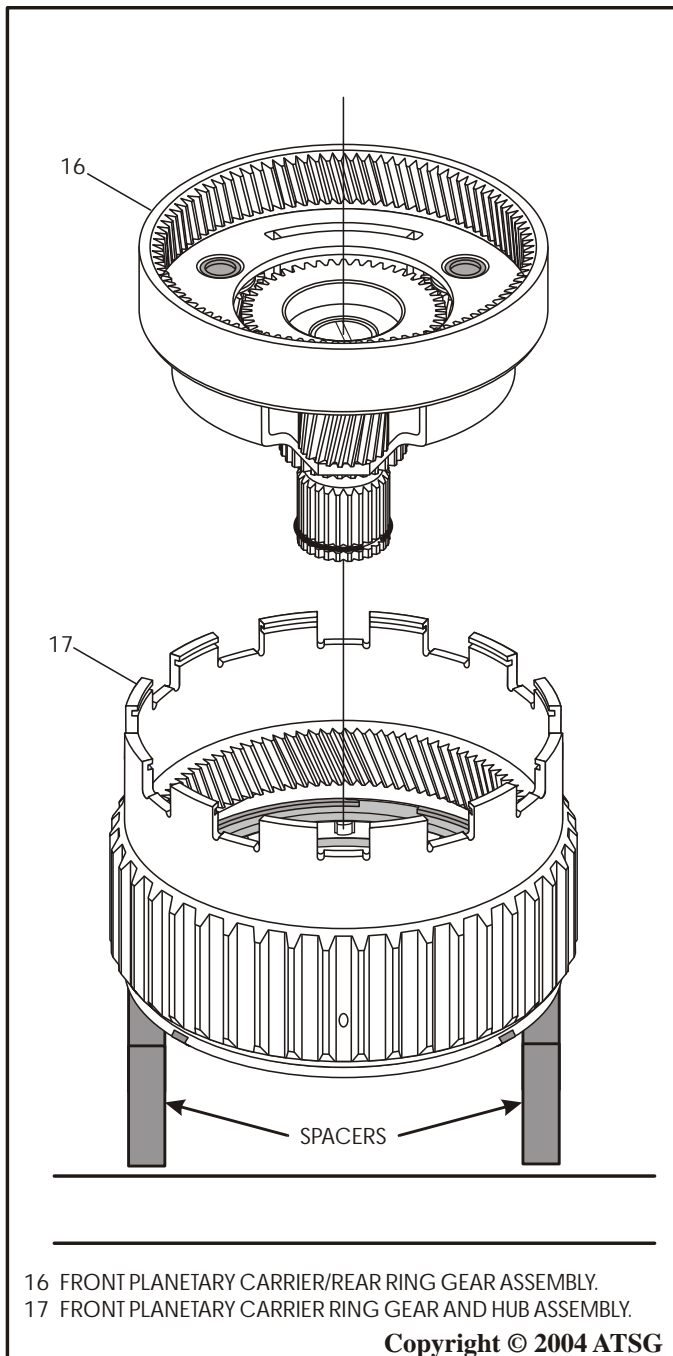

Figure 96
12. Place the pre-assembled ring gear and hub assembly on flat work surface with some type of spacers below ring gear to allow the shaft of the sun gear to protrude through ring gear. Refer to Figure 96.
13. Install the pre-assembled front planet and sun gear assembly into front ring gear by rotating into position, as shown in Figure 96, until fully seated